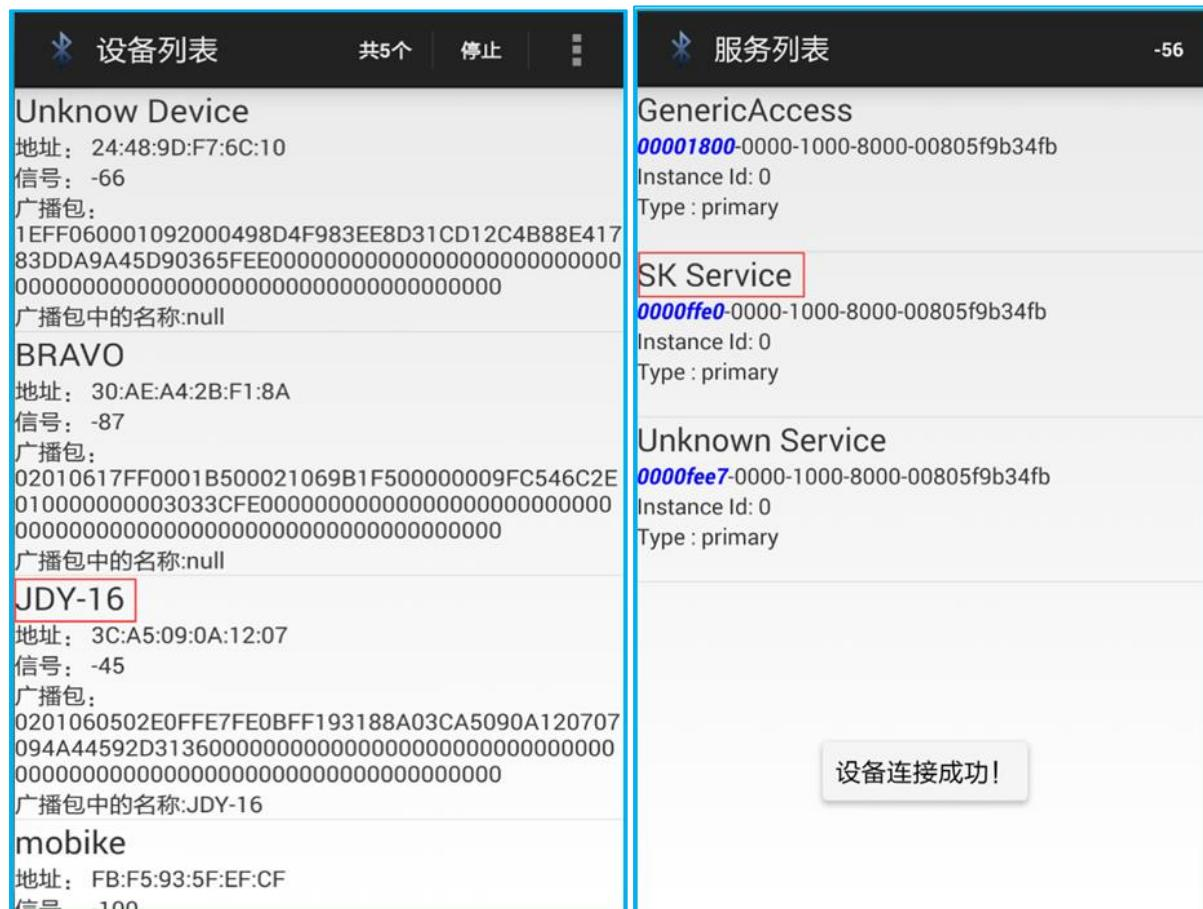

Figure 3.2.41 Device List Interface
3、Place the expansion board pin on the Arduino-UNO r3 mother board and insert it to open the test APP. The interface is shown in Figure 3.2.41. Find the corresponding Bluetooth name (JD-16) and click to connect. After the connection is shown in Figure 3.2.42, there will be three options for testing different functions, because here we only test whether Bluetooth can be normal Send and receive data, so we choose SK Service, click to enter Figure 3.2.43